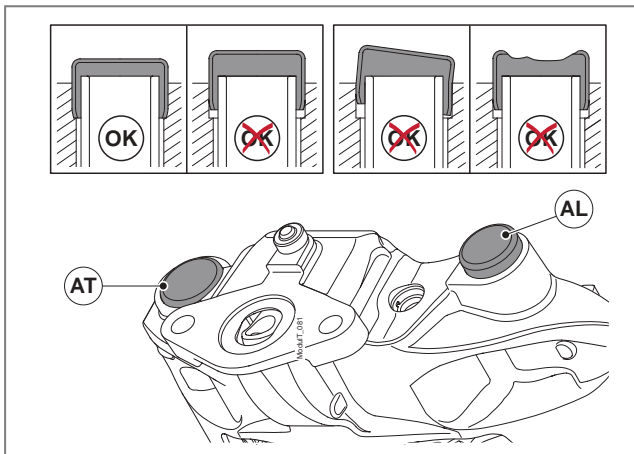

Fig. 72 - Correctly seating the protective caps
12. Carefully and squarely tap the protective caps (AT) and (AL) in place into using a soft headed mallet. Note that the caps are different sizes. The larger cap is fitted to the floating bearing side (AT) and the smaller cap is fitted to the fixed bearing side (AL). The fixed bearing protective cap (AL) is seated raised from the casting surface, whilst the floating bearing protective cap (AT) sits nearly flush, see ► *Fig. 72*.
14. Ensure that the protective caps are correctly seated as far as they will go, see ► *Fig. 72*.